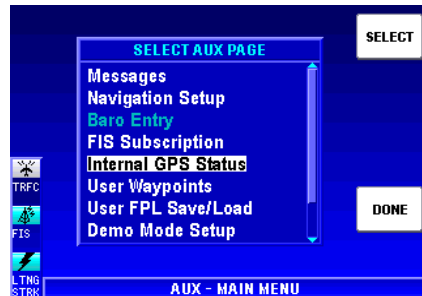

Figure 1-11
2. Press the **AUX MENU** Softkey to display Figure 1-11.
3. Using the Rotary Knob or the Joystick to select **Internal GPS Status** as shown in Figure 1-11.